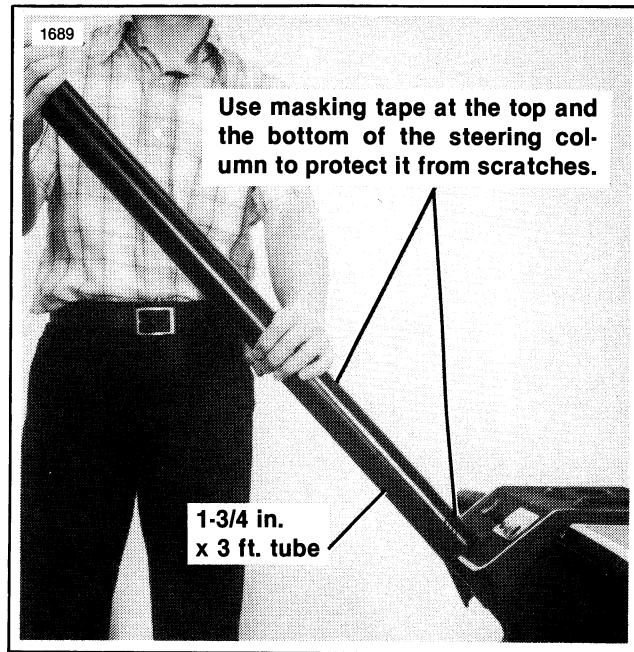

Figure 2-19. Bending Steering Column
3. See Figure 2-19. If slight misalignment is evident; bend the column tube as required using a 1-3/4 in. I.D. pipe approximately 3 ft. long to provide the correct column to shaft alignment.